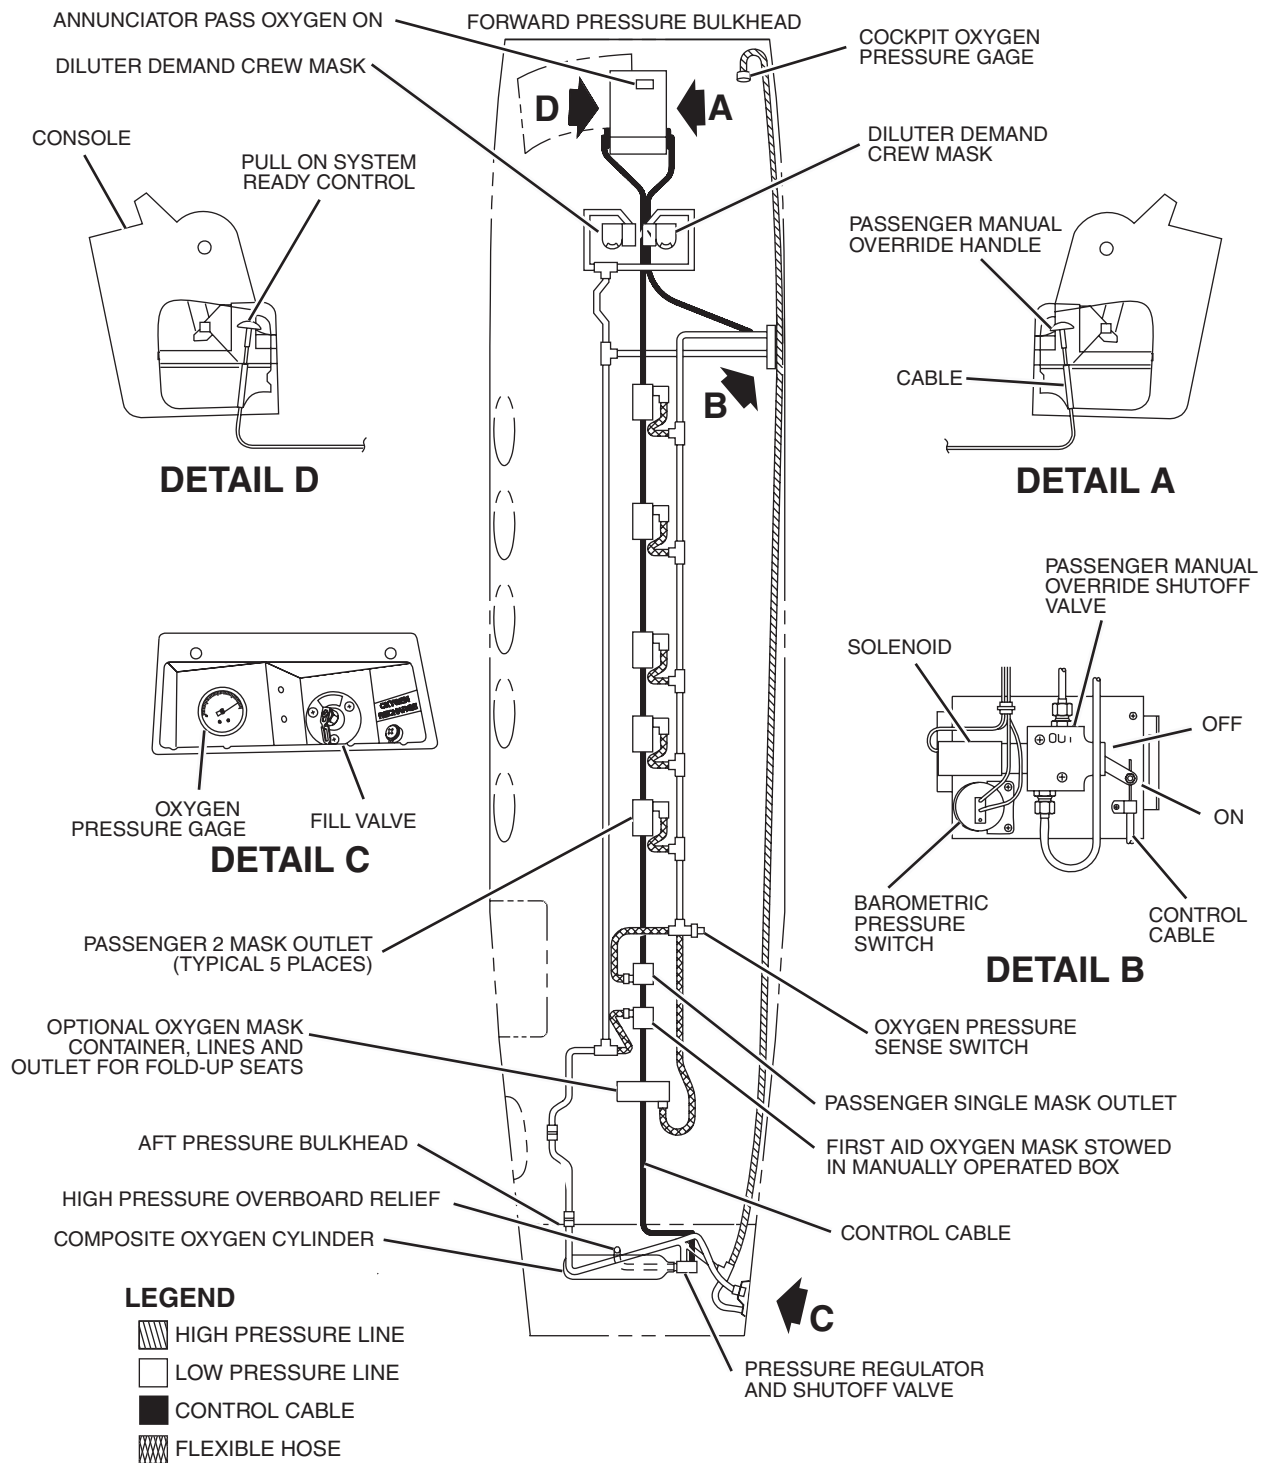

Figure 17-1. Oxygen System Diagram (BB-1439, 1444 and Subsequent)
- 2) An automatic deployment system for SNs BB-55 and subsequent, including the B200 (Figures 17-1 and 17-2).
The autodeployment system (Figures 17-1 and 17-2) is available for all Super King Air airplanes after SN BB-54 and is factory installed on all Super King Air B200 airplanes.